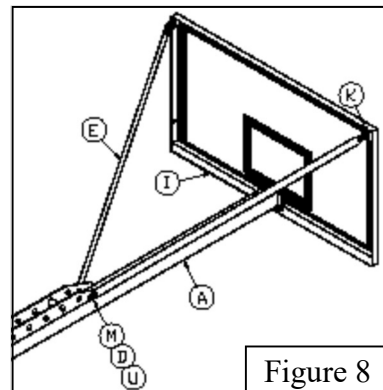

Figure 8
9. Measure the *Breakaway Goal (L)* height and if necessary readjust the two *Leveler Pads (B)* equally to achieve the official 10' playing height. Check to make sure the *Backboard (J)* and the *Breakaway Goal (L)* are still level. Once the *Backboard (J)* and *Breakaway Goal (L)* are level and the *Breakaway Goal (L)* is at the 10' height you shouldn't need make further adjustments.
10. Lower the goal to the storage position onto it's wheels and attach the *Rod Ends (K)* to the *Backboard (J)* in the corners using the *1/2" Flat Washers (D)*, and *1/2" Lock Nuts (M)*. Attach the *Backboard Braces (E)* to the extension arm through the ball joint with *1/2" X 2 1/2" Hex Bolt (U)*, *1/2" Flat Washer (D)*, and *1/2" Lock Nut (M)*. Attach the *Backboard Brace (E)* to the *Rod Ends (K)* mounted to the *Backboard (J)* corners. Tighten all hardware. See Figures 8, 9 and 10.